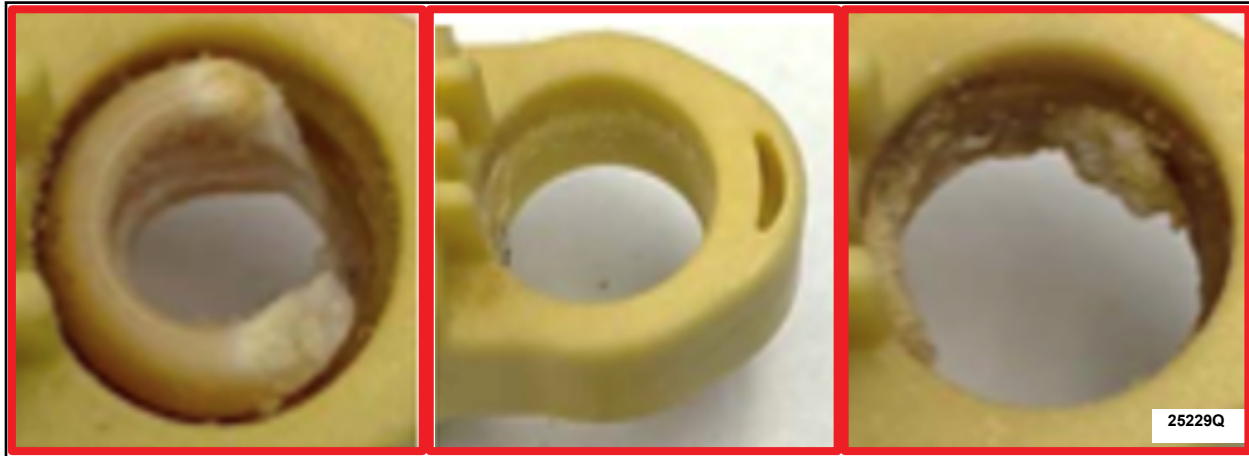

FIGURE 2
7. Inspect the shift cable bushing. See Figures 2 and 3.
YES - (Figure 2) Proceed to Step 8.